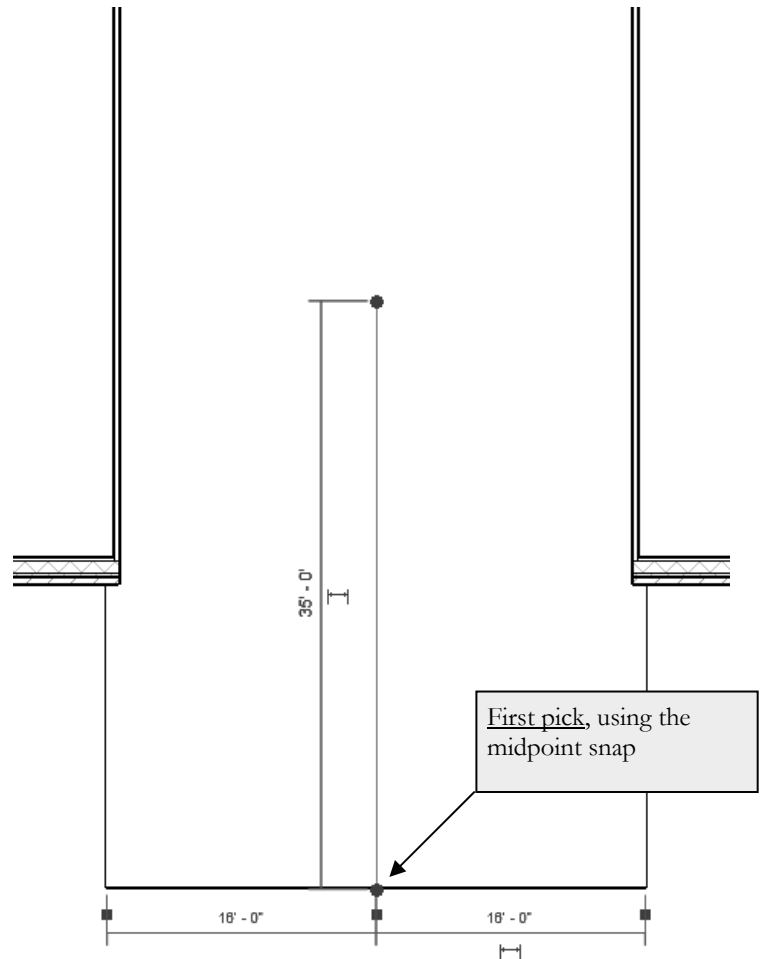

FIGURE 3-3.3
10. Draw the "vertical" line shown in Figure 3-3.3; be sure to snap to the *Midpoint* of the atrium wall as your first point.